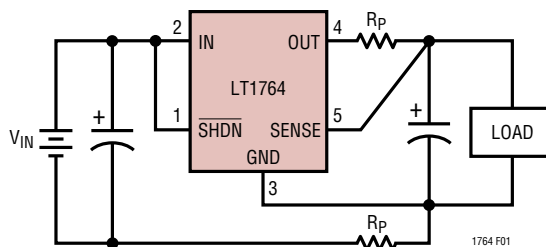

Figure 1. Kelvin Sense Connection
**SENSE (Pin 5/Pin 6):** Sense. For fixed voltage versions of the LT1764 (LT1764-1.8/LT1764-2.5/LT1764-3.3), the SENSE pin is the input to the error amplifier. Optimum regulation will be obtained at the point where the SENSE pin is connected to the OUT pin of the regulator. In critical applications, small voltage drops are caused by the resistance ( $R_p$ ) of PC traces between the regulator and the load. These may be eliminated by connecting the SENSE pin to the output at the load as shown in Figure 1 (Kelvin Sense Connection). Note that the voltage drop across the external PC traces will add to the dropout voltage of the regulator. The SENSE pin bias current is  $600\mu\text{A}$  at the nominal rated output voltage. The SENSE pin can be pulled below ground (as in a dual supply system where the regulator load is returned to a negative supply) and still allow the device to start and operate.